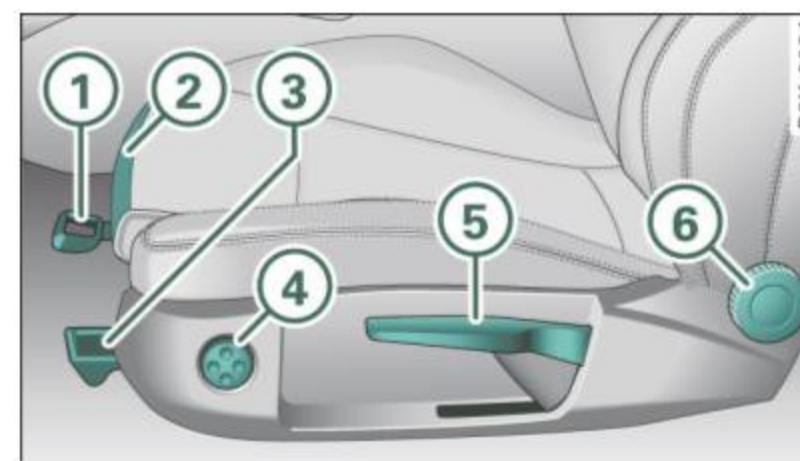

Fig. 69 Controls on the driver's seat
- Pull the lever  ⇒ page 71, fig. 69 up and push the seat to the desired position.
- Pull or push the lever  ⇒ page 71, fig. 69 up or down (pumping motion).
- Turn the hand wheel  ⇒ page 71, fig. 69 to adjust the angle of the seatback accordingly.